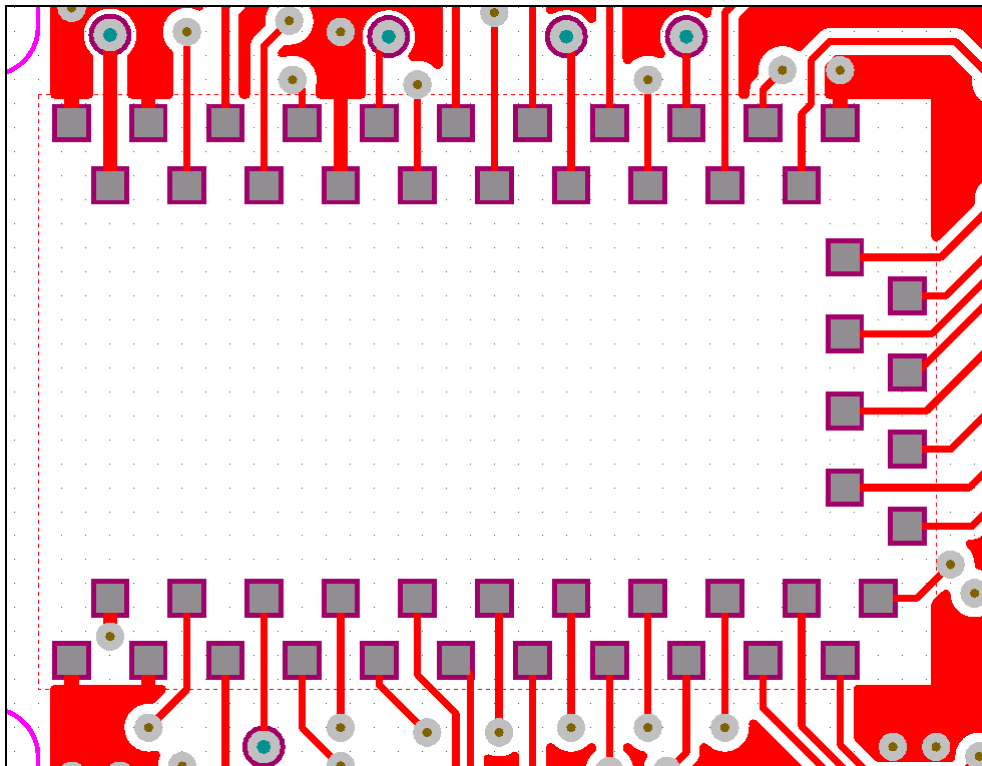

Figure 26: Exemplary base board footprint for 22M00 (top view)
Figure 26 shows an exemplary base board footprint for deRFmega128-22M00. Only the top layer (red) is visible. The mid and bottom layers are hidden. The rectangular signal pad copper area (red, not visible) and the paste dimension (grey) have the same size of 0.6 x 0.6 mm. The solder stop clearance (purple) has a value of 0.1 mm. Do not place copper on any other area among the entire module. Solder stop could be used everywhere.
- Route traces straight away from module (see **Figure 26**)